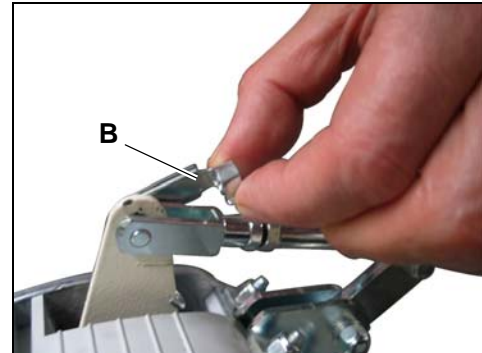
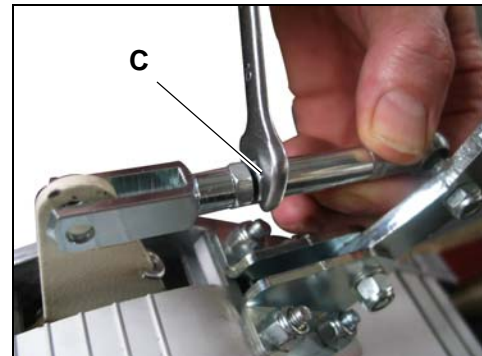

FIG. 5
FIG. 6
- raise the stopping spring (B - figure 5) and remove it;
- loosen the nut (C - figure 6);
- refit the stopping spring (B – figure 5) and tighten the nut (C - figure 6).